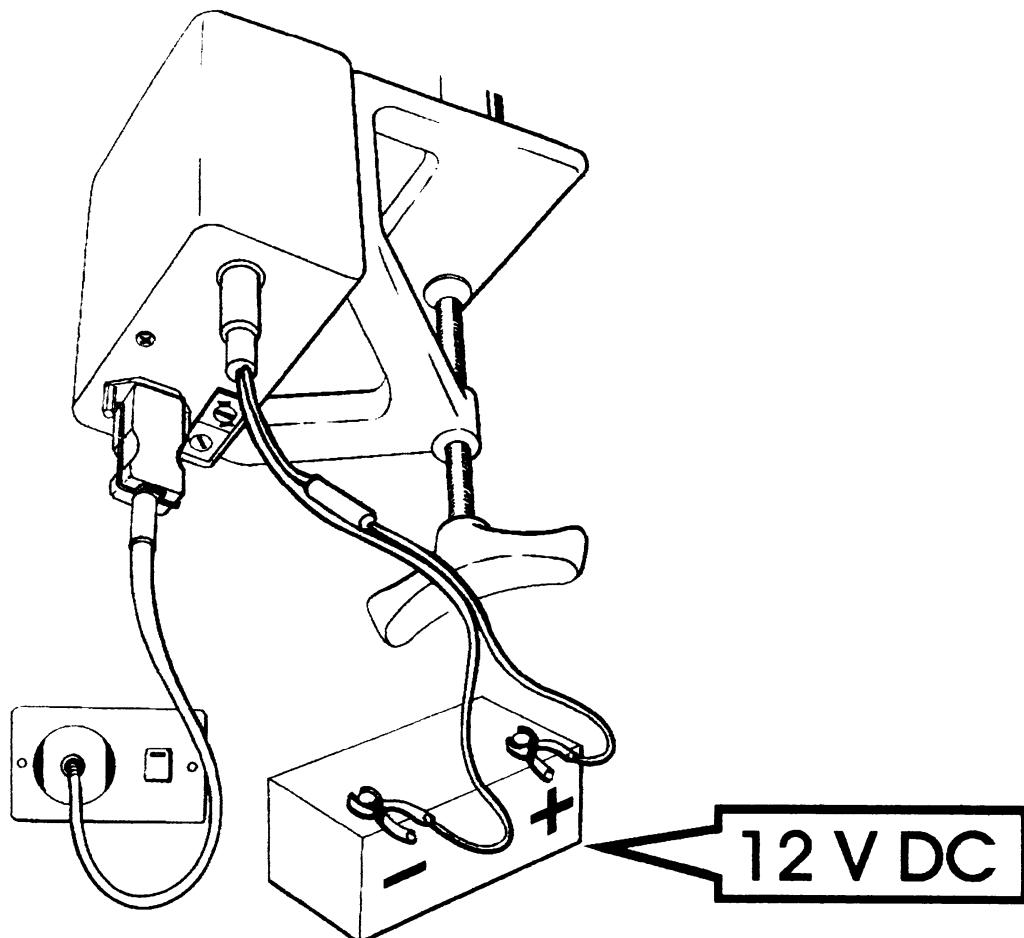

*Figure 6*      Connecting the lamphouse cable
7. Attach the female socket on the lamphouse cable to the connector on the side of the lamphouse. Pass the lamphouse cable through the clips on the arm assembly and plug into the power supply. This will ensure the cable does not obstruct the surgeon or come into contact with the sterile area (see figure 6).